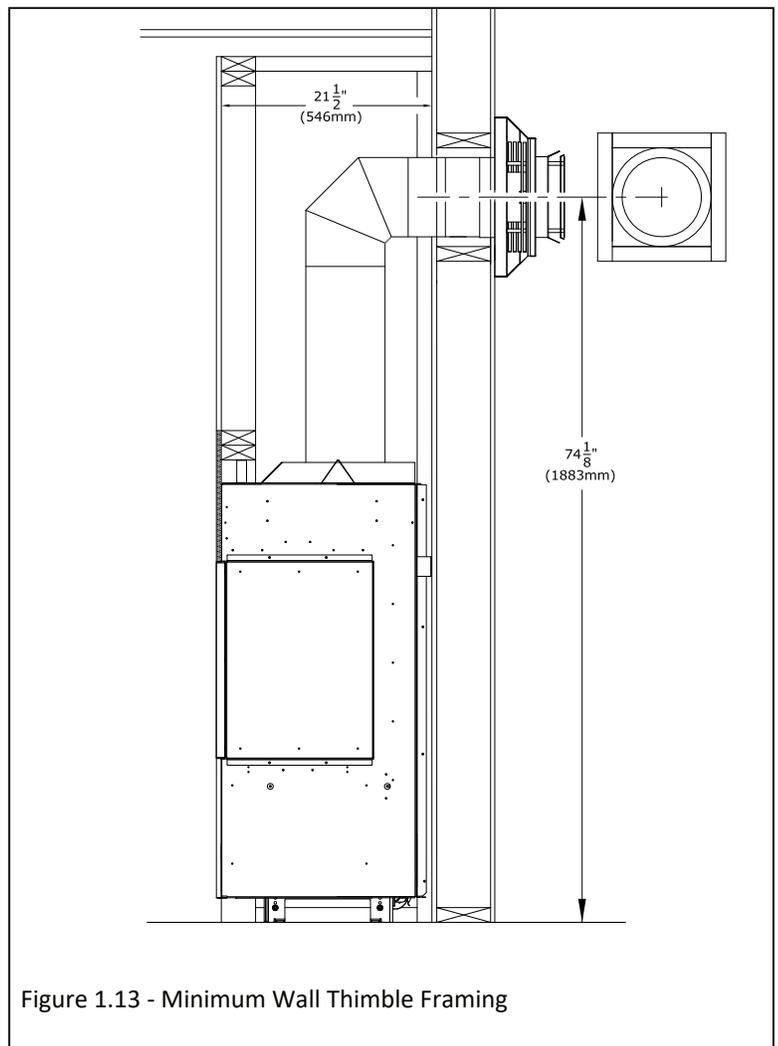

Figure 1.13 - Minimum Wall Thimble Framing
- Follow Figure 1.13 below for minimum rough-in dimensions.